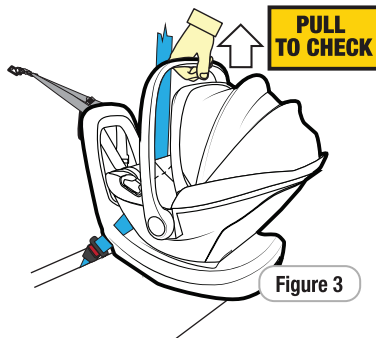

Figure 3
Step 3: Press down on the Infant Carrier to engage the securing hooks. Pull upwards on the Infant Carrier to check it is correctly locked into position (refer Figure 3),